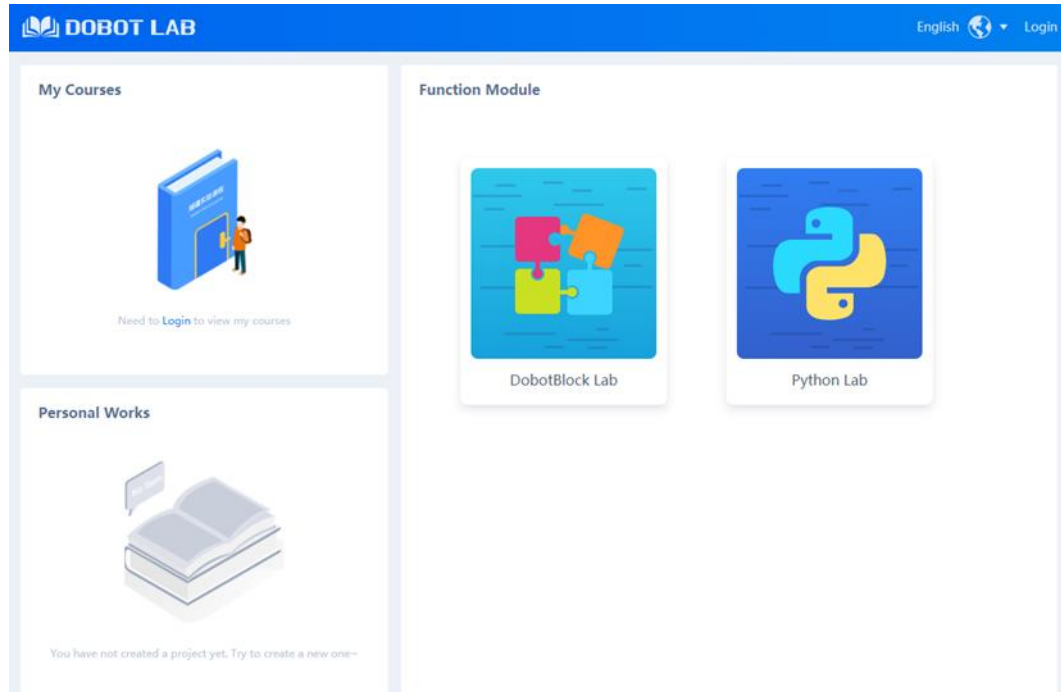

Figure 4.12 DobotLab main interface
DobotLab (website: <https://dobotlab.dobot.cc/>) is an integrated software platform specially designed for artificial intelligence (AI) education. DobotLab has two core programming modules, namely DobotBlock Lab and Python Lab. The main interface is shown in Figure 4.12.